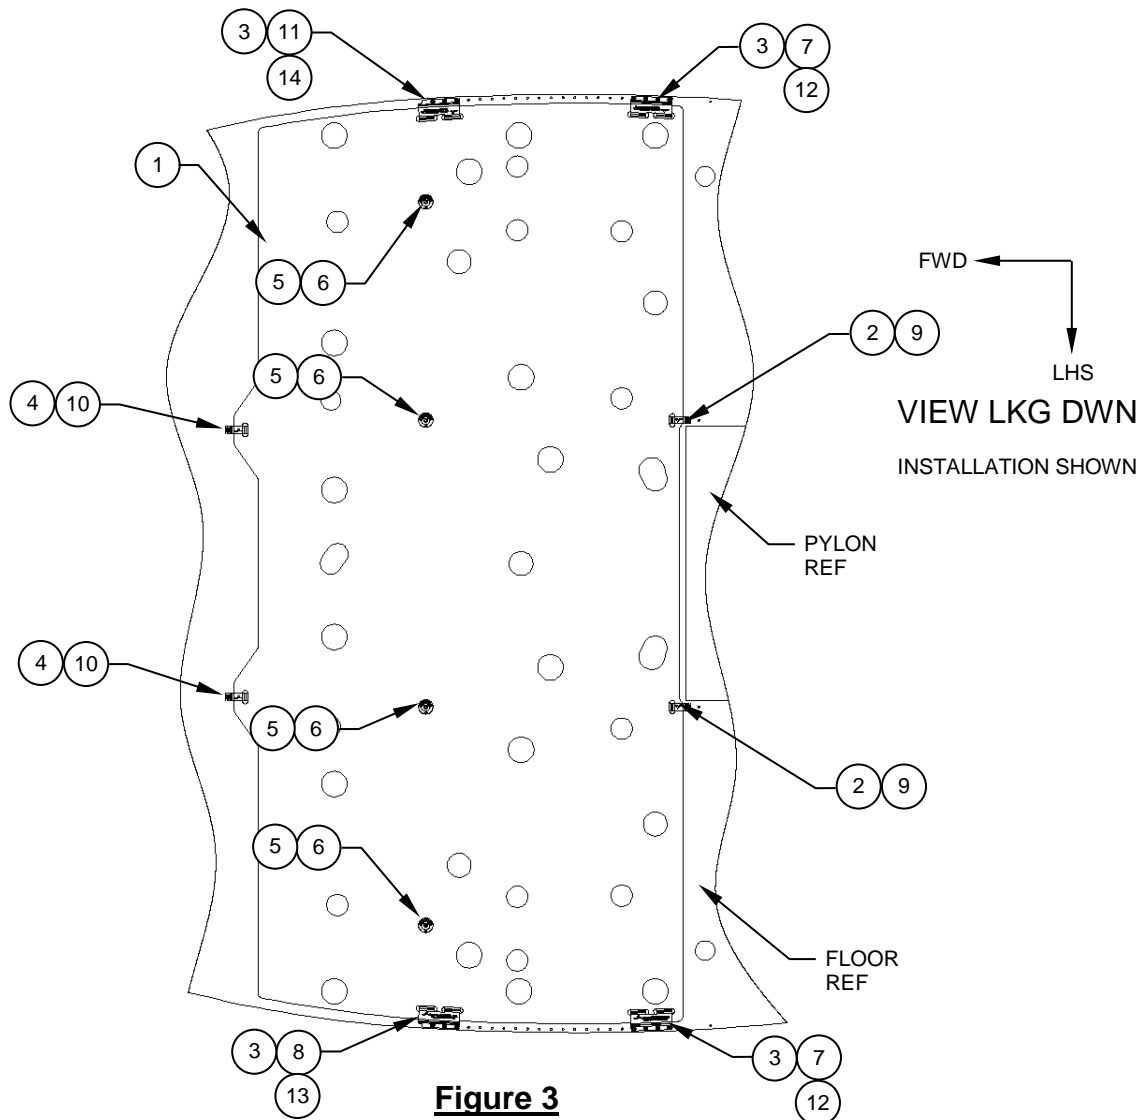

**Figure 2**
2. Install the Floor Board Assy, Item 1, as shown. Reference Figure 2.
3. Remove and discard the existing floor panel hardware, 14 places, from the locations shown. Reference Figure 2.